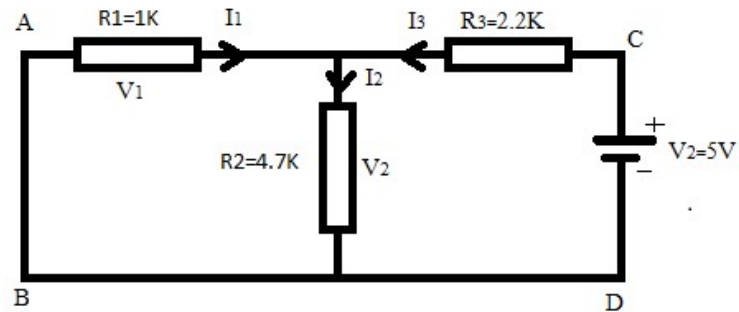

Figure 3
5. Now consider source V_2 and open the DC source V_1 , replace it by a short circuit (internal resistance of the source). Measure voltage across R_1 , R_2 and R_3 Figure 3.